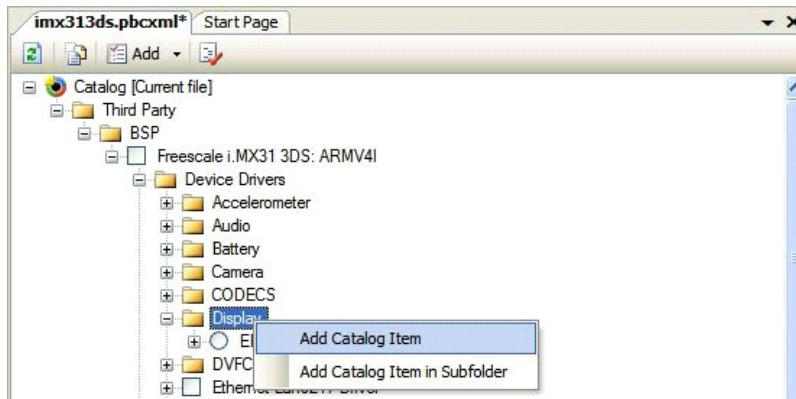

Figure 23. Adding a New Catalog Item
3. Create a new entry for the GiantPlus display under Catalog > Third Party > BSP > Freescale i.MX31 3DS: ARMV4I > Device Drivers > Display folder. Right click the Display folder and select Add Catalog Item as shown in Figure 23.